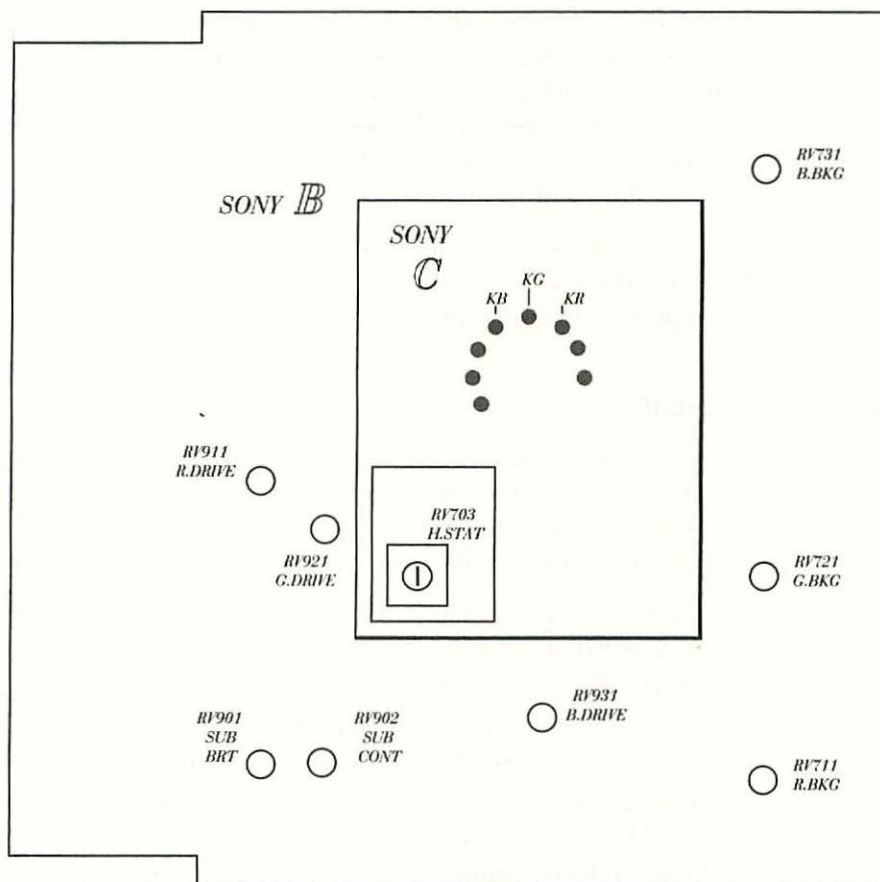

Figure 3-20 The three white-balance controls, RV731 or blue background, RV721 or green background, and RV711 or red background are on the “B” board.
13. As shown in Figure 3-20, the three white-balance controls, RV731 blue background, RV721 green background, and RV711 red background are on the “B” board. Locate the background control (not the screen control) associated with the tint color.